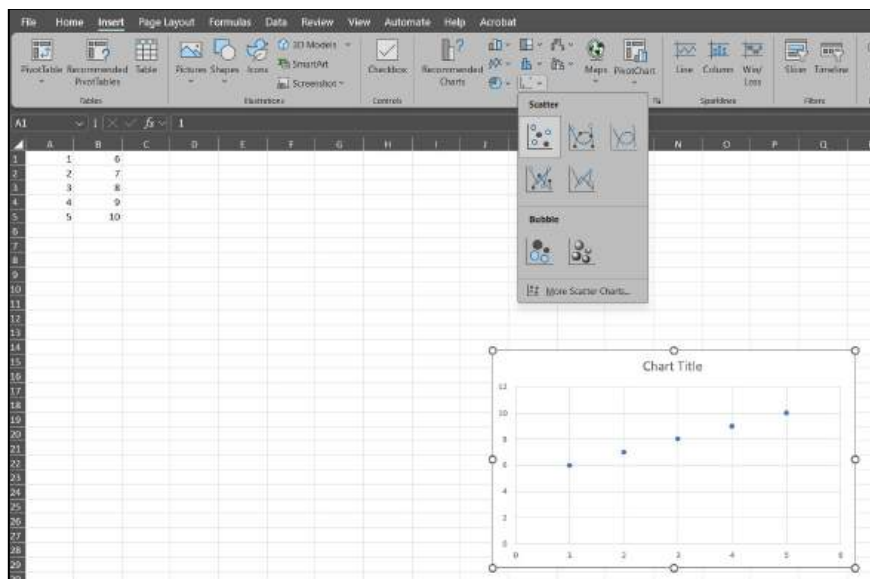

Figure A-1. Finding corrected best-fit line from Microsoft Excel.
7. Select “Scatter” from the “Charts” options. See **Figure A-1** below.